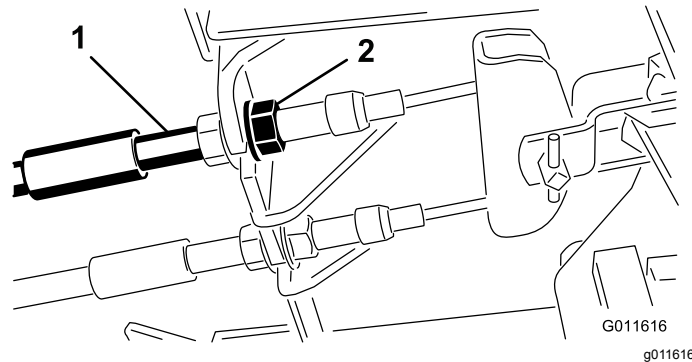

**Figure 71**
Adjust the brakes when there is more than 2.5 cm (1 inch) of free travel (Figure 71) of the brake pedal, or when more holding force is required. Free travel is the distance the brake pedal moves before you feel braking resistance.
2. Tighten the rear nut to move the cable backward until brake pedals have .63 to 1.27 cm (1/4 to 1/2 inch) of free travel (Figure 71), before wheel lock up is achieved.